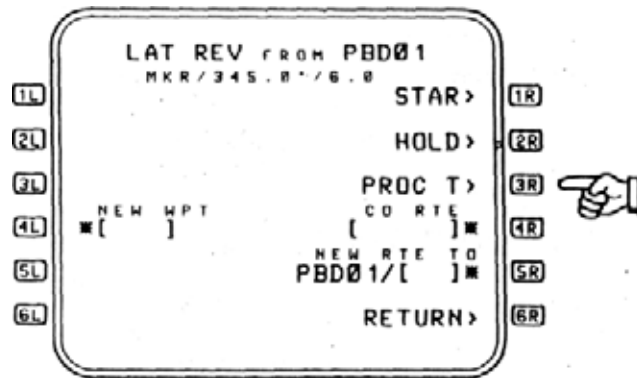

Figure 2-132
A PROC T with a manual termination (PM) may be defined at any waypoint in the flight plan by first doing a LAT REV at the desired procedure turn fix. As with any LAT REV, this fix or point becomes the revise point. Figure 2-132 is the LAT REV from PBD01 page.